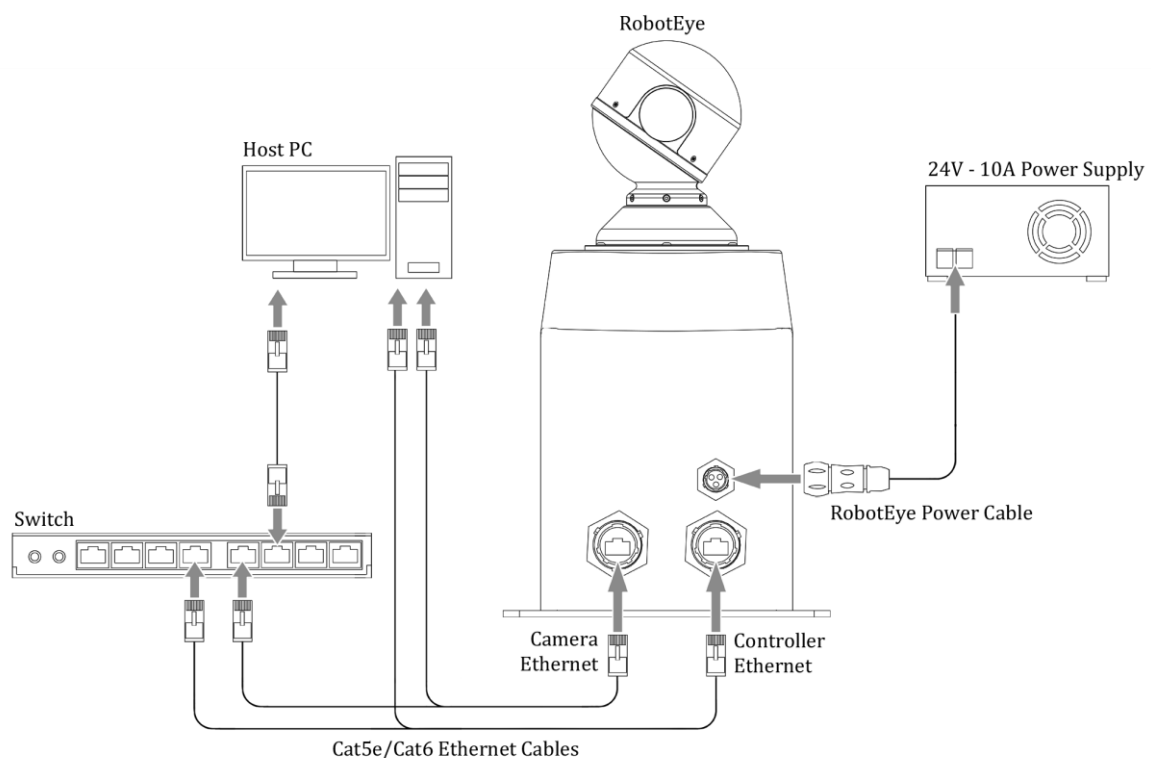

Figure 2.5 Wiring and connections for the REV25 System
1. Connect one end of the Ethernet cable to the network port on the PC or Switch. Connect the other end to the REV25 Control Ethernet port (right-side Ethernet connector). Refer to Figure 2.5.